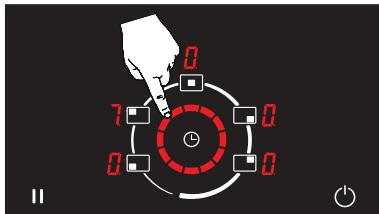

Figure 36
2. The cooking area for which the auto cooking function ( **A** ) is set is adjusted to the required temperature level using the rotating slide control and the auto cooking function ( **A** ) is terminated. (See Fig. 36)